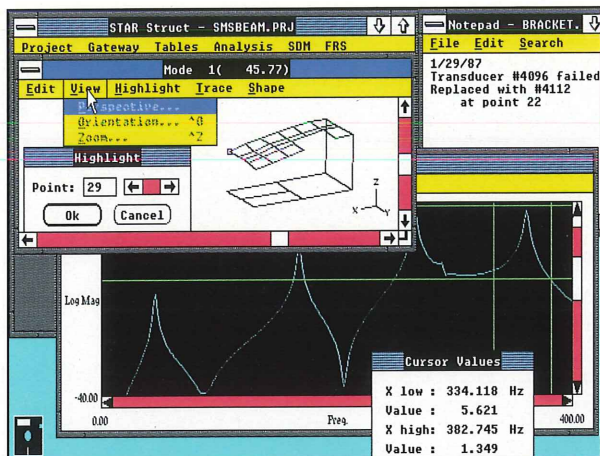

Figure 4. Typical display when using the STAR System for modal analysis.
One such modal analysis program, the STAR System from Structural Measurement Systems, Inc., is a full-performance modal analysis program for the PC. Figure 4 shows a typical display from this system. The STAR System is very easy to use since it runs under Microsoft Windows. In addition, it has optional packages for structural modification and forced response simulation. The combination of the 2630, the PEP 301, and software like SMS STAR makes accurate modal analysis affordable for many mechanical designers.
**Graphical adjustment steps.** EZ-TEST PC has the unique ability to incorporate operator adjustments of the UUT within the test procedure while simultaneously assisting the operator with a real-time graphical display of the adjustment results. When an adjustment step of this type is executed, the computer monitor displays a simple one-line bar graph with an indicator that moves back and forth as the measured real-time output changes (see Figure 4). The bar graph can also display preprogrammed nominal and limits values. The operator adjusts the applicable control until the display indicates that the measurement is within limits.